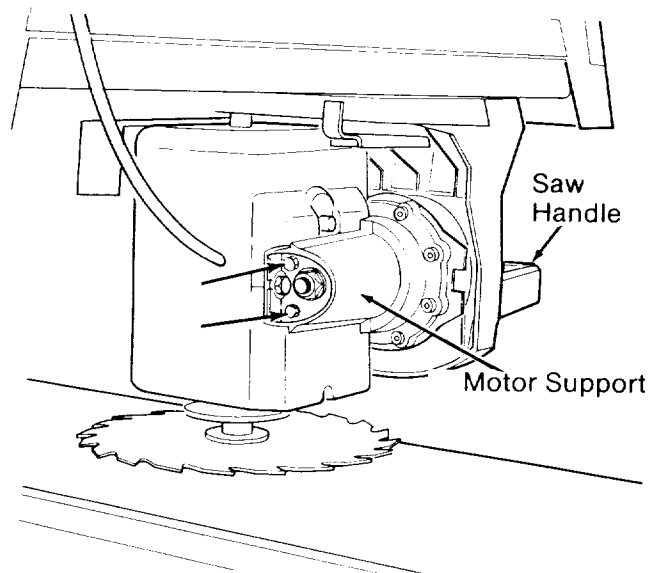

Fig. 122
10. Loosen the two screws on the back of the *motor support* using a 3/16 inch hex-L wrench and pliers if necessary. (Figure 122)